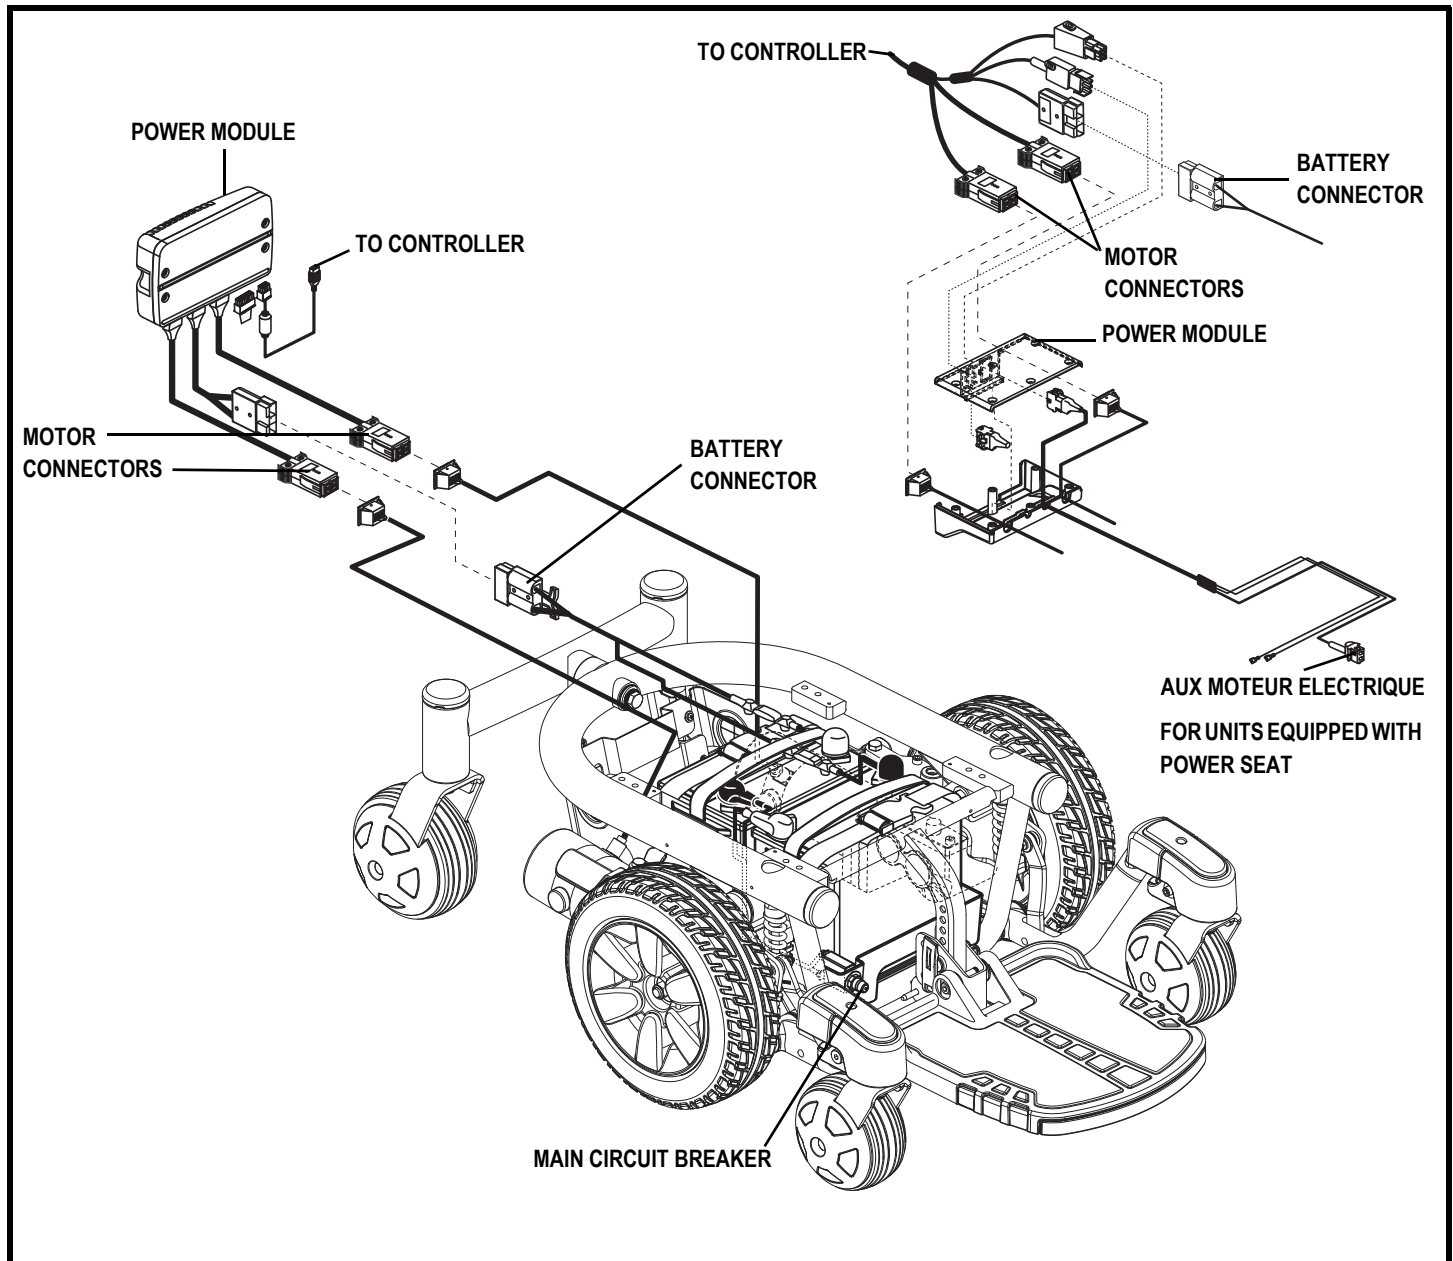

Figure 7. J6 Electrical Components
The electrical components are located inside the power base. The main circuit breaker is located on the front of the battery tray. The controller connector(s) are located inside the power base. **See figure 7.**
6. Plug the controller connector into the power base. See figure 7.
4. Disconnect the controller connector(s) from the power base. **See figure 7.**